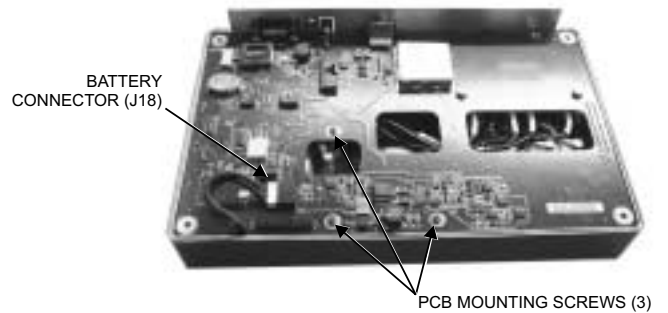

Figure 18. Main PCB
2. Disconnect the battery connector from J18 on the Main PCB (Figure 18).